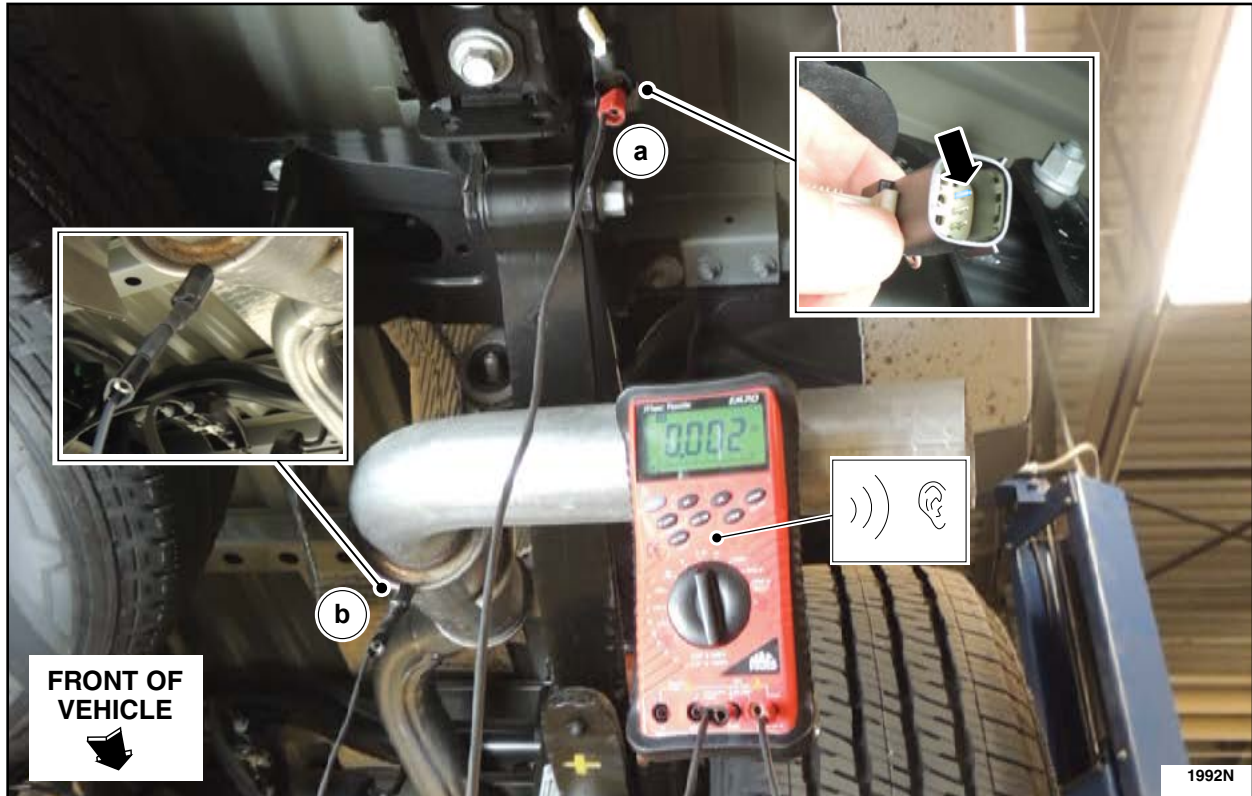

FIGURE 9
9. Connect the leads of a volt/ohm meter to pin 1 (Bk wire) of C415 or C4484 (a) and a good ground (exhaust or chassis ground) (b) as shown in Figure 9. Set the meter to ohms with an audible tone. The audible tone should be heard at this time, if not check for good meter lead connections at both locations. If the connections were found to be secure continue to the next Step.